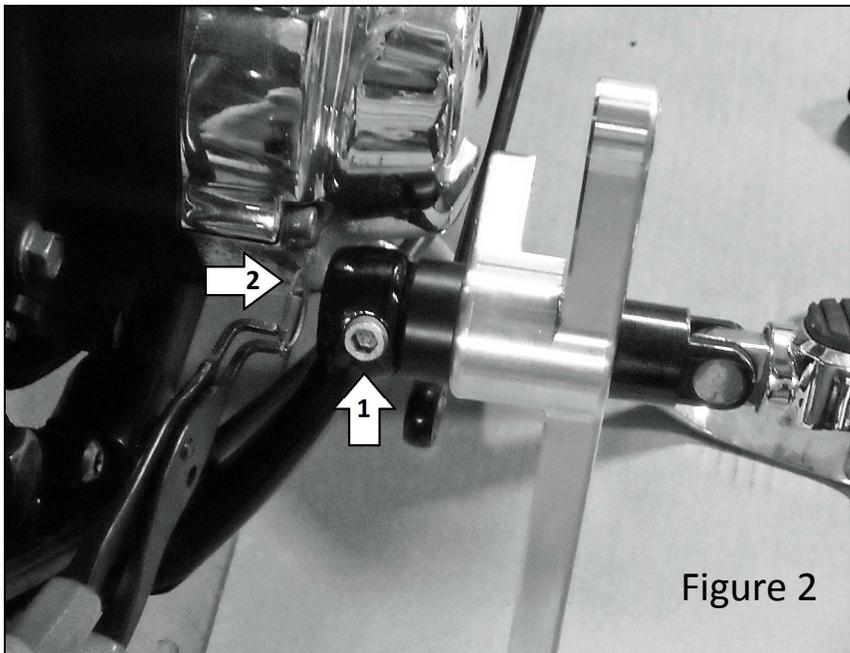

Figure 2
2. Slide the Clevis through the Heel Toe Shift Lever and the Support Bracket. Insert and tighten the Locating Bolt (Figure 2 item 1). After final test fit use **Blue Loctite®** on this bolt to help prevent it from loosening during operation.
3. Replace the Snap Ring (Figure 2 item 2) inside the groove of the Clevis end.